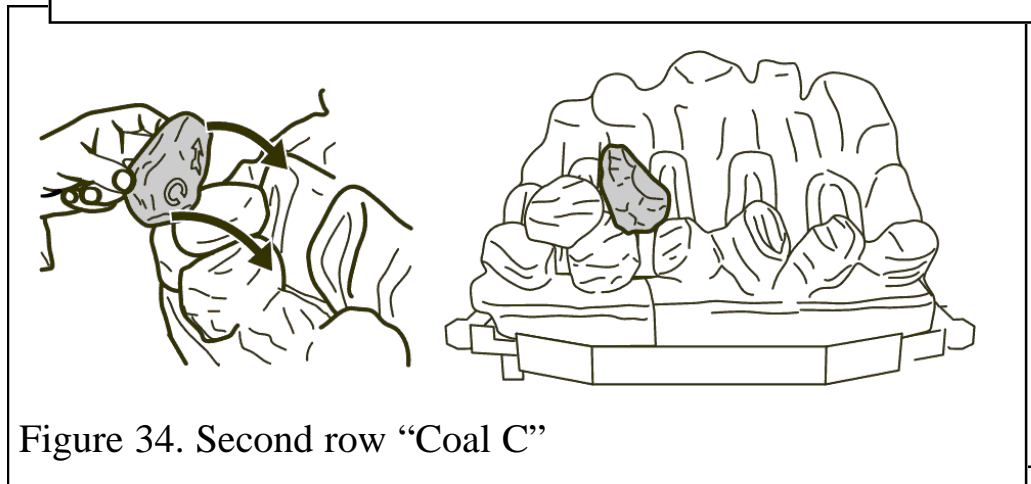

Figure 34. Second row "Coal C"
7. Hold coal 'C' upright with the arrow pointing to the top. Locate coal 'C' as shown in figure 34.